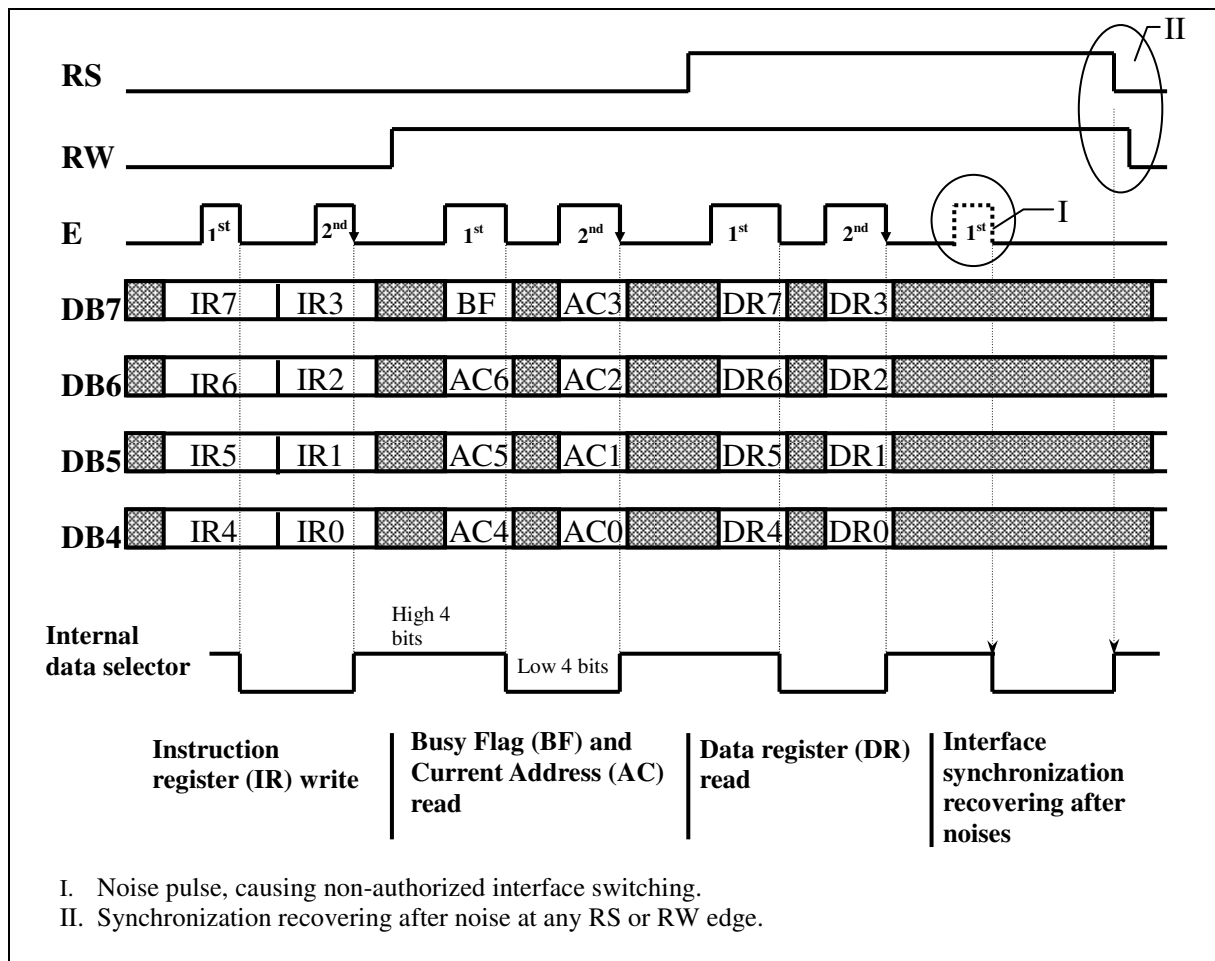

Figure 3. Example of 4-bit interface operation.
- In the 4-bit interface mode, DB4-DB7 is used for information exchange with MPU. DB0-DB3 bits are not used. The 8-bit instructions and data are transmitted through the 4-bit interface in two passes. Accordingly two E pulses are needed (see Figure.3). Firstly 4 high order bits are transferred and then 4 low order bits. An internal controller data selector multiplexes the high or low tetrad of this register, switching on E signal falling edge. The instruction is completed on the second E pulse and accordingly Busy Flag is set to “1” only on falling edge of second E pulse.
To prevent this situation, the controller has the interface synchronization function, which provide the correct order of the data following in 4-bit interface: any change of both RS as well as RW signals reset the data selector to the initial state (see Figure 3). In other words the any change of the interface operation mode (even Busy Flag check) automatically set it in initial state. On the other hand, it is forbidden to change RS and RW state between E pulses during submission of single instruction.